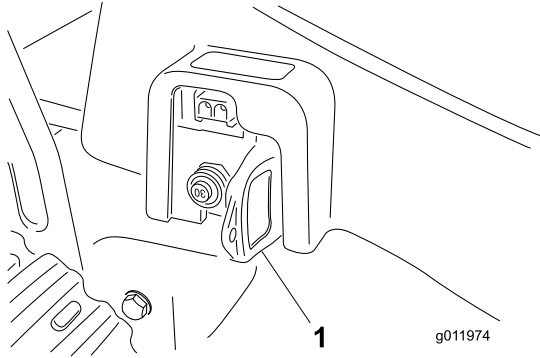

Figure 5
The mower only operates when the key is fully seated in the plug receptacle (Figure 5). To prevent accidental starting or unauthorized use of the mower, always remove the key from the plug receptacle whenever you leave the mower unattended. Store the key out of the reach of children.
2. Insert the key fully into the plug receptacle (Figure 5).